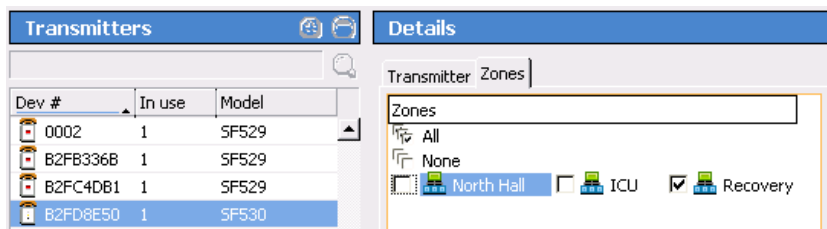

Figure 27: Add Transmitters to Zones in the Event Monitor
1. In the Event Monitor software, click the **Registers** button and then choose **Transmitters** from the registers list. The Event Monitor Transmitters register is shown in Figure 27.